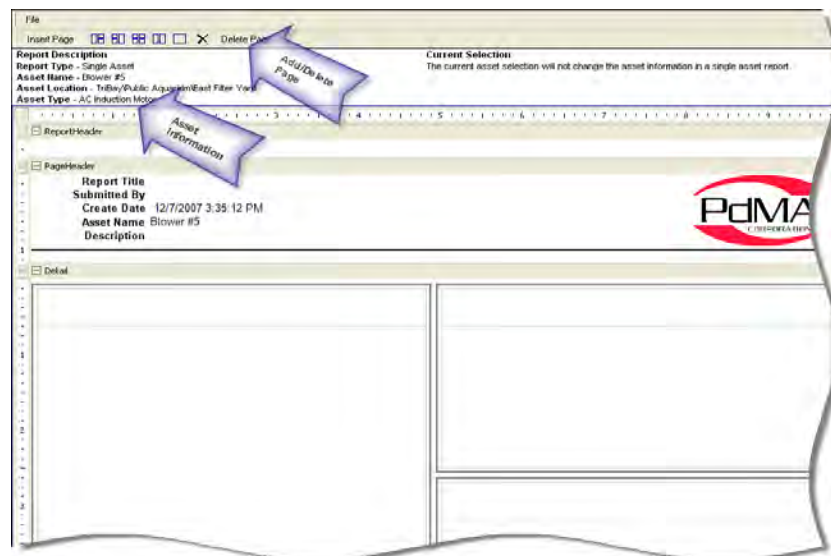

Figure 3-71: Report Template Window
1. A second page may be added by clicking on the icon representing the desired layout. The icons are located to the right of Insert Page and directly below the menu on the report window. See Figure 3-71.